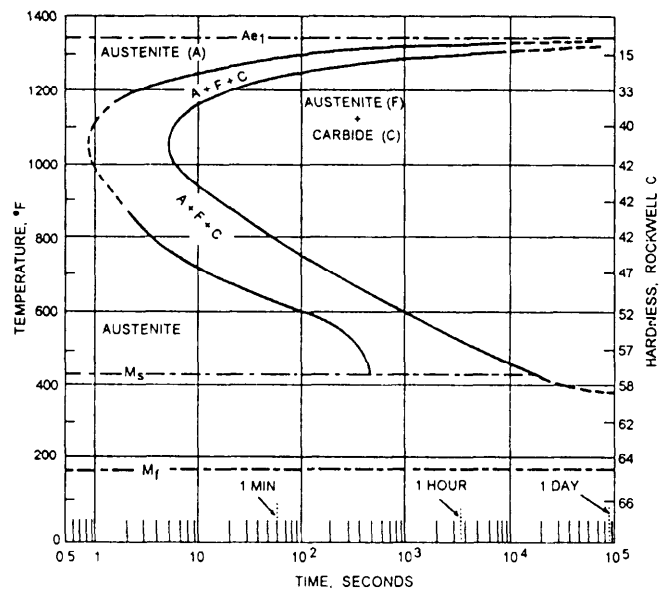

Figure 15-15.—Isothermal transformation diagram (S-curve) for eutectoid carbon steel.
The course of transformation of austenite when the steel is quenched to and held at various constant elevated temperature levels (isothermal transformation) is shown by a diagram known as the isothermal transformation diagram (I-T diagram). This diagram is also called the Bain S-curve or the TTT diagram, for time, temperature, and transformation. Such a diagram for eutectoid carbon steel is shown in figure 15-15. The I-T diagram of a steel is a map that charts the transformation of austenite as a function of temperature and time and shows approximately how a particular steel will respond to any rate of slow or rapid cooling from the austenite state. The products of this transformation will be discussed below.
**PEARLITE:** Austenite containing 0.83 percent of carbon, cooled quickly to and held at 1,300°F, does not begin to decompose (transform) until after about 15 minutes and does not completely decompose until after about 2 hours (fig. 15-15). Thus, at temperatures just below the critical temperature ( $A_{c1}$ ), austenite is stable for a considerable length of time. The product of the decomposition of austenite at this temperature is coarse pearlite of relatively low hardness. If the austenite is
**MARTENSITE:** If the austenite is cooled unchanged to relatively low temperatures (below about 430°F for the eutectoid carbon steel), partial transformation takes place instantaneously; the product of transformation is martensite. Austenite transforms into martensite over a temperature range with the amount that transforms being a function of the temperature. Only minute amounts will transform at about 430°F; practically all of the austenite will be transformed at about 175°F. The beginning of this transformation range is termed the  $M_s$  (martensite start) temperature and the end of the range is termed the  $M_f$  (martensite finish) temperature, as shown in figure 15-15. As long as the temperature is held constant within the  $M_s - M_f$  range, the portion of the austenite that does not transform instantaneously to martensite remains untransformed for a considerable length of time, eventually transforming to bainite.
Although the discussions of the decomposition of austenite have been limited to a steel of eutectoid composition, other steels behave in a similar manner, at different temperatures and times of reaction. In hypoeutectoid steels, free ferrite plus pearlite are formed if transformation begins above the temperature range at the nose of the S-curve. The amount of free ferrite decreases as the temperature of transforming approaches the nose of the curve. In hypereutectoid steels, free ferrite plus pearlite are formed if transformation occurs above the nose. The time for the start of the transformation at the nose increases as the carbon increases up to the eutectoid composition, and then decreases with further increase in carbon. That is, the nose is shifted to the right on the time axis (fig. 15-15) as the carbon is increased to 0.8 percent and back to the left with further increases in carbon content.